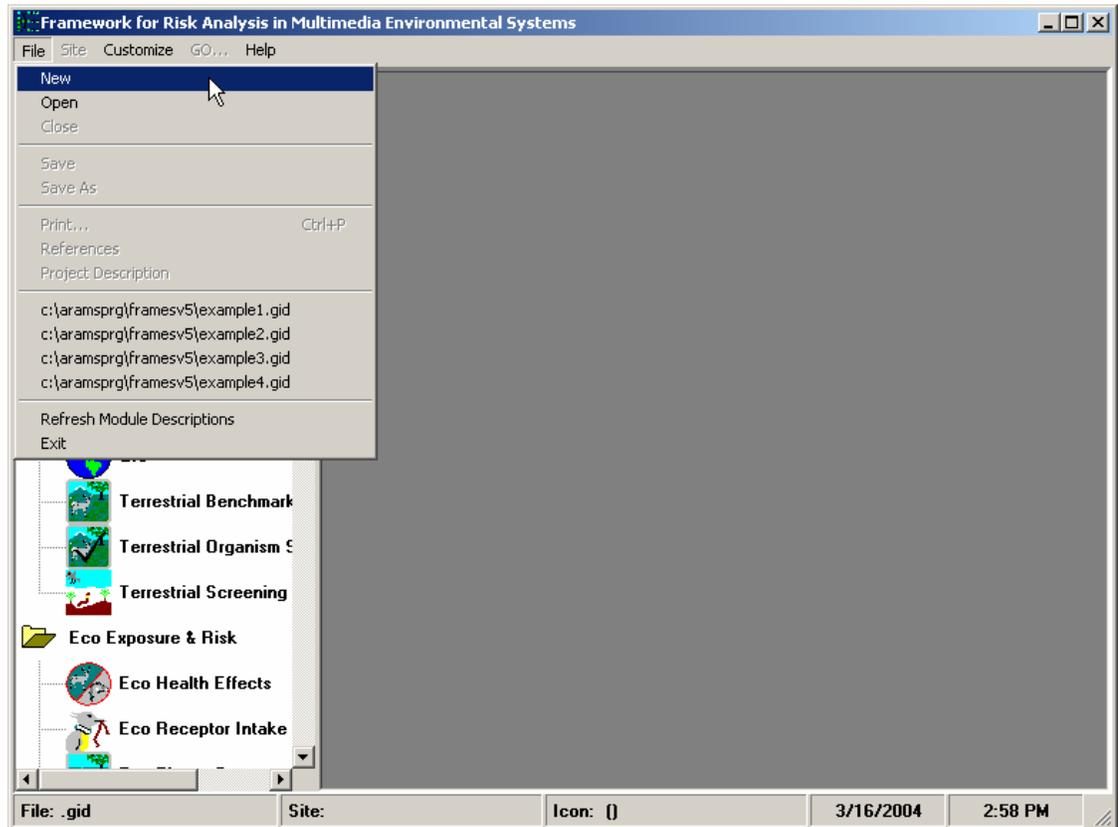
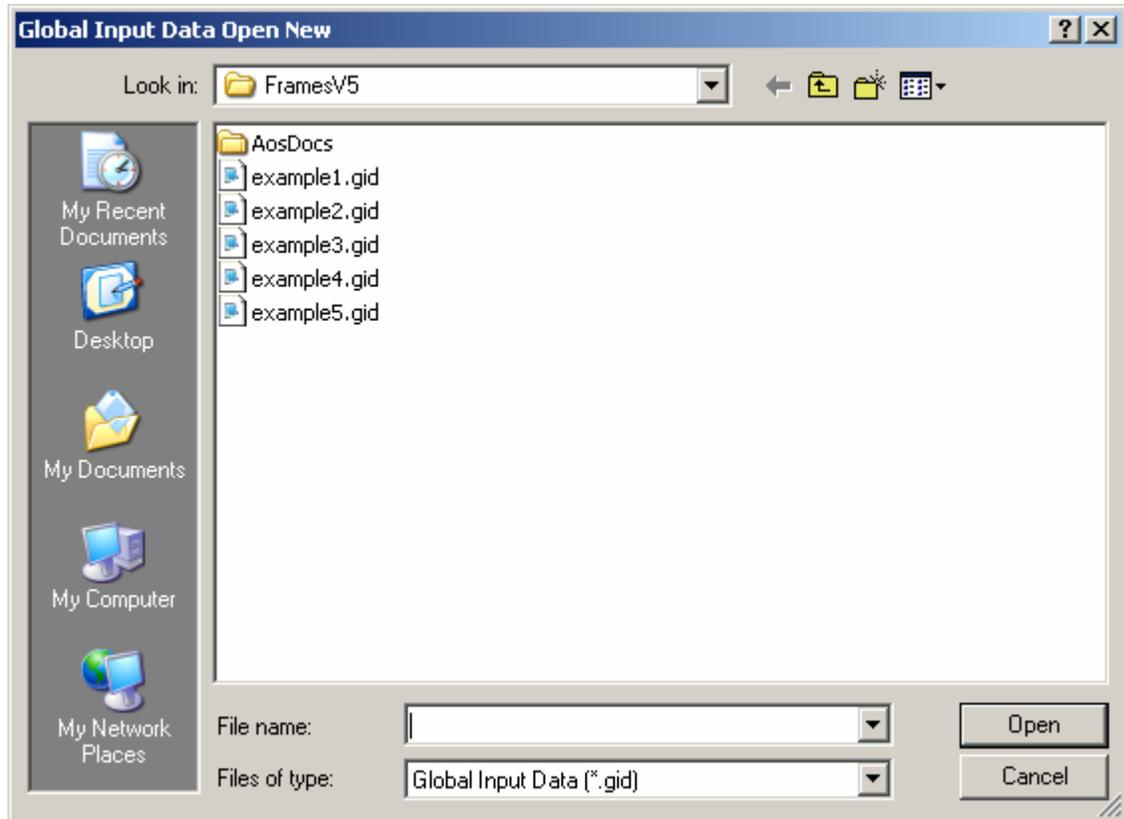
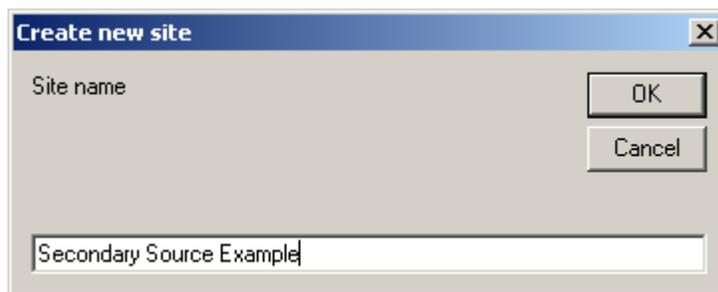

Figure 3. Opening a new file
Figure 4. Global Input Data Open New screen (new file window)
Figure 5. Create New Site screen (input “Site name” box)
- While ARAMS/FRAMES is running, click “File” from the FRAMES menu and choose “New” (see Figure 3). A window titled “Global Input Data Open New” will appear. In the “File Name” box enter the project name (type: “Sample1,” maximum of eight characters) and click “Open” (see Figure 4). **Do not name the new file “Example8” because it will write over the existing “Example8” file that was distributed with the tutorial.** A window titled “Create New Site” will appear. Next, type the project site name (type: Secondary Source Example) and click “OK” (see Figure 5).